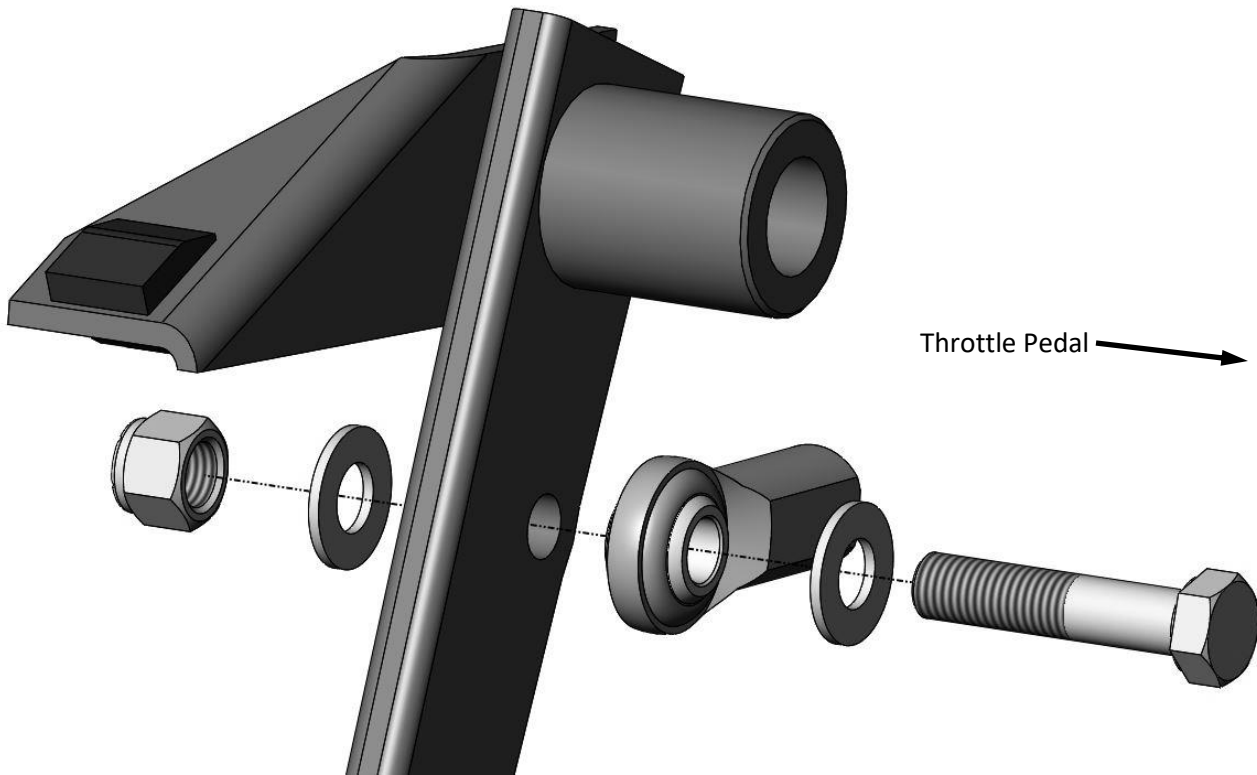

Figure 1 – Heim Joint Attachment to Brake Pedal
- i. On OE Manual Brake trucks, there should only be one hole in the brake pedal and will be re-used for attaching to the new booster. The pedal ratio is being changed within the bellcrank. If the brake pedal has a 3/8" pin that the factory manual brake push rod attached to, knock the pin out of the brake pedal so that the 3/8"-24 x 1.750" bolt will go thru the pedal and the Heim Joint. **NOTE:** On some vehicles without a pin, the pushrod attaching hole may need to be enlarged to 3/8" diameter. Refer to Figure 1 on the next page for proper attachment of the pushrod to the brake pedal.